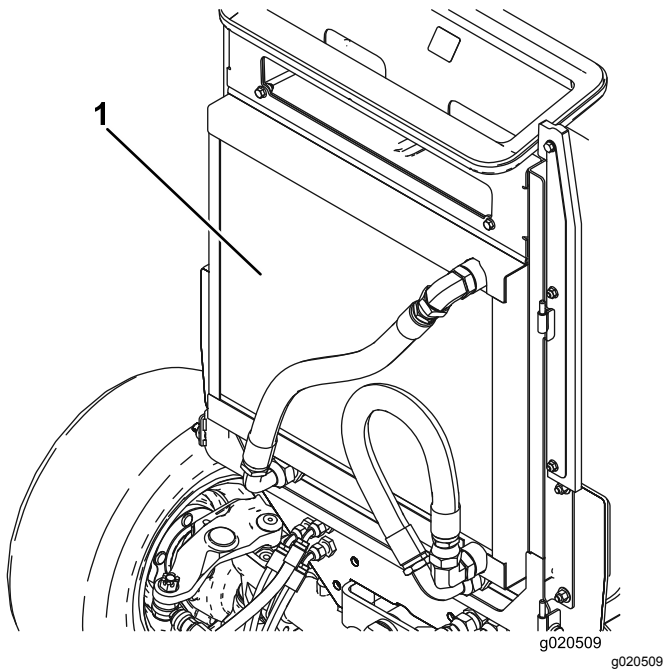

Figure 76
3. Thoroughly clean both sides of the oil cooler and the radiator (Figure 76) with compressed air. Start from the front and blow the debris out toward the back. Then clean from the back side and blow toward the front. Repeat procedure several times until you remove all chaff and debris.